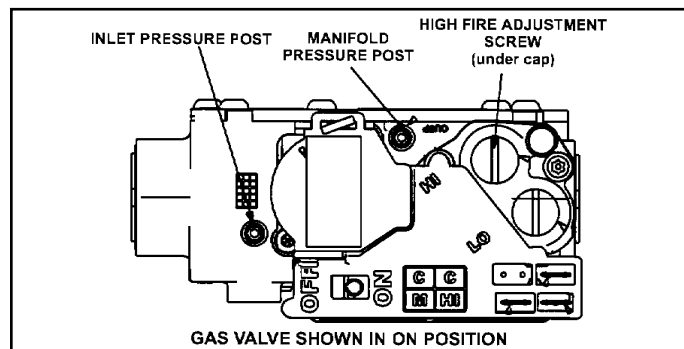

Figure 77.
6. Move gas valve switch to OFF. See Figure 77.
8. Move gas valve switch to ON. See Figure 77.
An inlet pressure post on the inlet side of the gas valve provides access to the supply pressure. See Figure 77. Back out the 3/32 Hex screw one turn, connect a piece of 5/16" tubing and connect to a manometer to measure supply pressure.
1. A manifold pressure post located on the gas valve provides access to the manifold pressure. See Figure 77. Back out the 3/32 Hex screw one turn, connect a piece of 5/16" tubing and connect to a manometer to measure supply pressure.